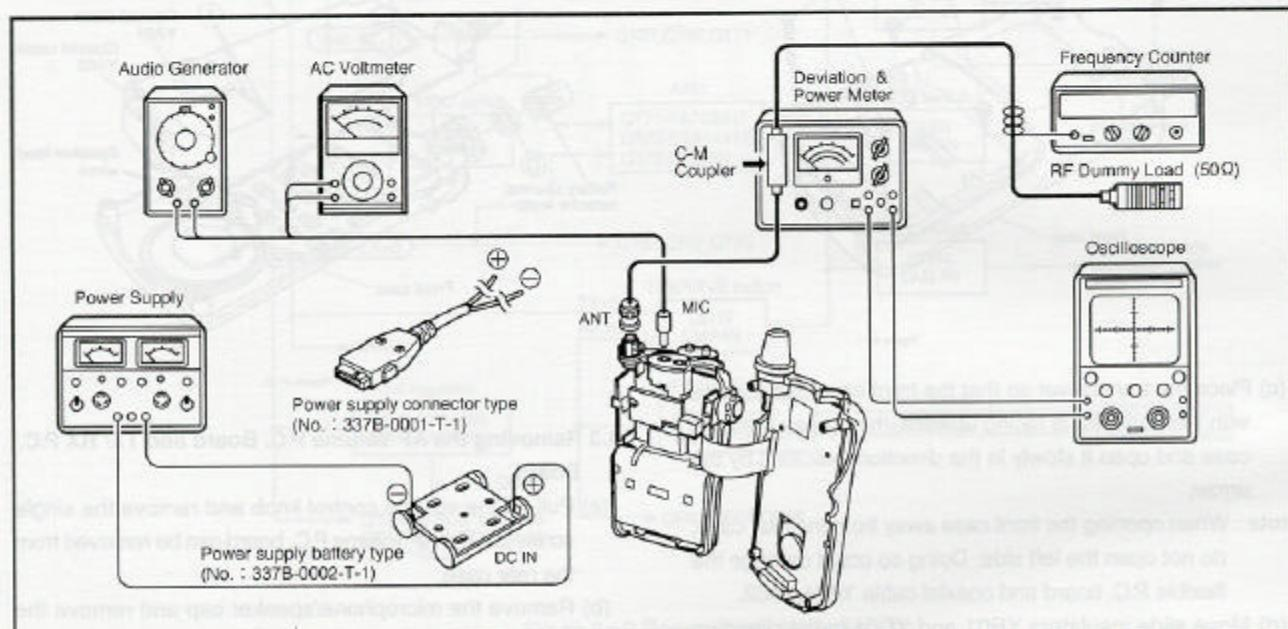

Figure 5-1 Transmission connection diagram
- Apply an 8.4 V voltage from interface jack YD02 to the transceiver. (Use the power supply connector type. See figure 5-1)